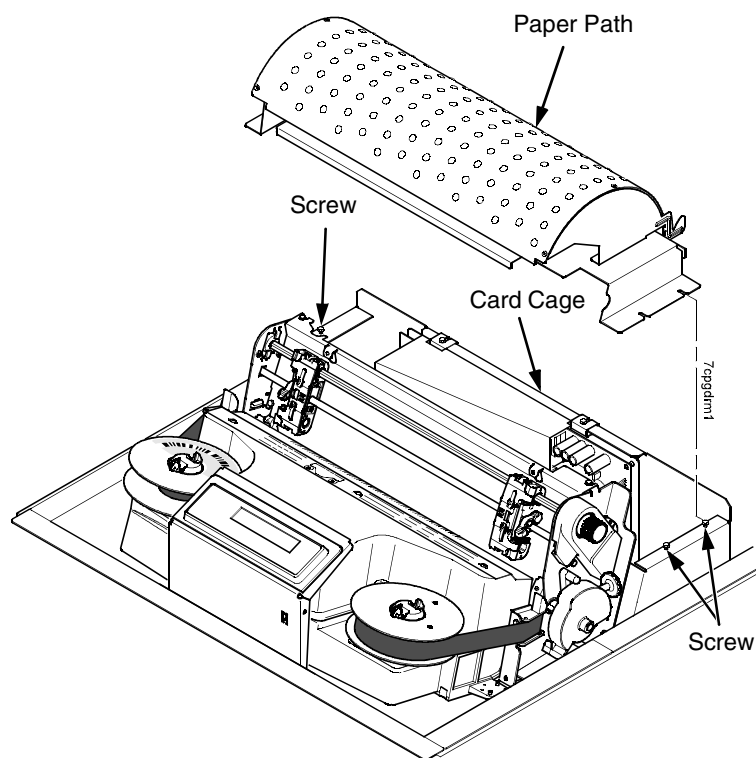

Figure 81. Remove the Paper Path
4. Loosen—do not remove—the three paper path hold-down screws. Slide the paper path to the left and lift it off the card cage. (Figure 81.)